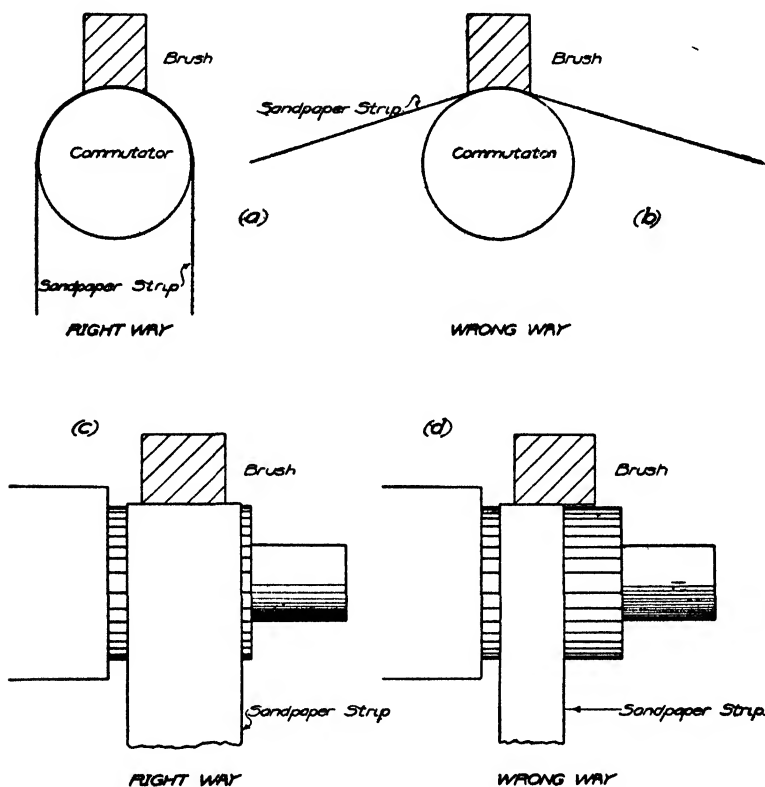

Fig 64 Method of Sanding-In Brushes
**Seating the Brushes.** To insure proper operation of the machine either as a generator or as a motor, it is necessary that the brushes fit the commutator exactly and that they make good contact over their entire surface. If they do not, sparking will occur and the commutator will become burned and blackened, cutting down the efficiency of the machine. The brushes are the only wearing parts of a direct-current generator or motor, and, as this wear on them is constant, they will require attention at intervals to keep them in good condition. Whenever sufficient wear has taken place to make the contact uneven, the brushes must be fitted to the commutator or *sanded-in*. Cut a sheet of No. 00 sandpaper in strips slightly wider than the brush. Emery cloth must *never* be used for this purpose. It is metallic and will tend to cause short-circuits in the commutator. The strip of sandpaper is wrapped around the commutator so as to make contact with at least half of its circumference in the manner illustrated in (a) and (c) of Fig. 64. The smooth side of the paper is laid on the commutator so that the sanded side rubs the brush. By drawing the sandpaper back and forth, it is possible to fit the brush very accurately to the commutator. It will be obvious that if the sandpaper be applied to the commutator, as shown in (b) and (d) of the same illustration, that the brush will only touch at its center and there will be excessive sparking between the gaps thus formed.